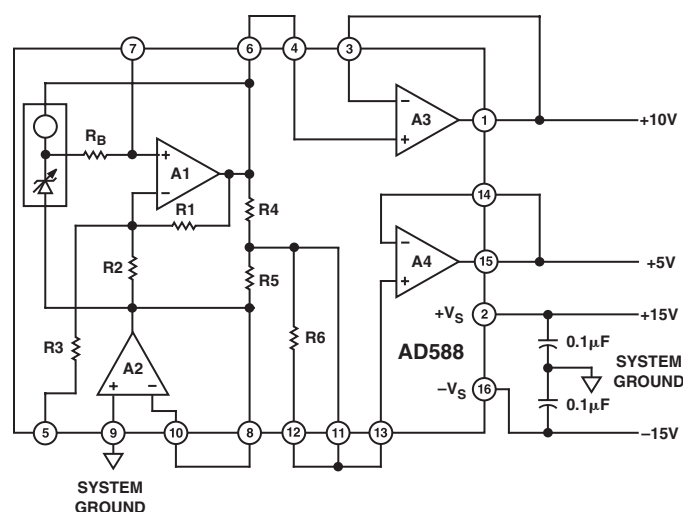
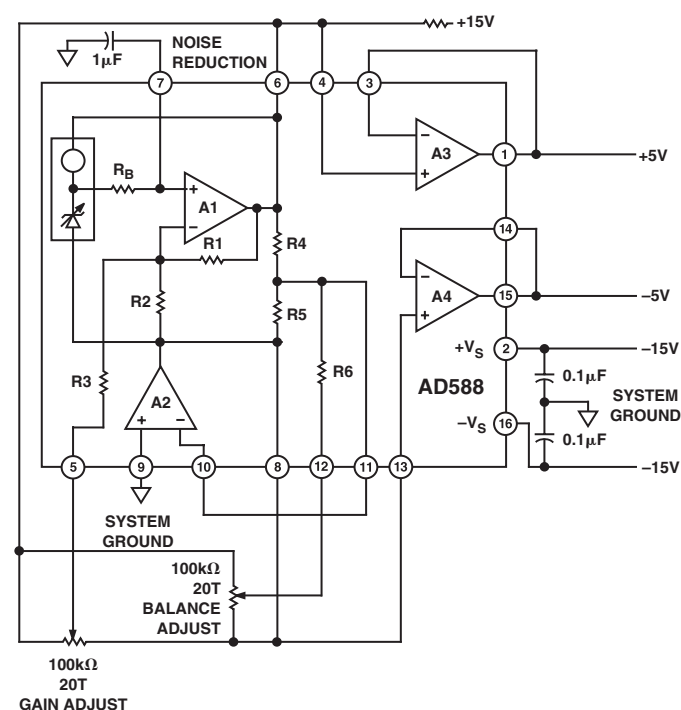
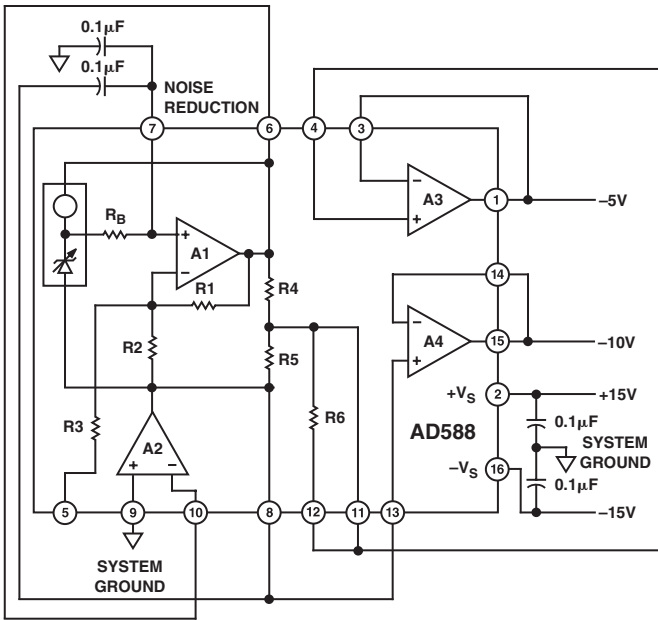
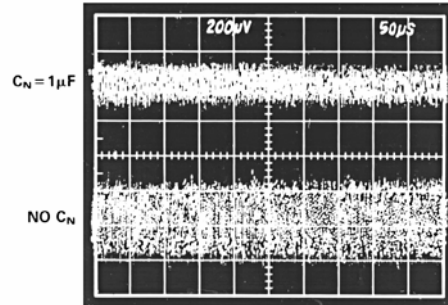

Figure 2a. +10 V Output
Figure 2b. +5 V and -5 V Outputs
Figure 2c. -10 V Output
Figure 4. Effect of 1 µF Noise Reduction Capacitor on Broadband Noise
+10 V	Figure 2a
-10 V	Figure 2c
+5 V, -5 V, ±5 V	Figure 2b
The AD588 can be configured to provide +10 V and -10 V reference outputs as shown in Figures 2a and 2c, respectively. It can also be used to provide +5 V, -5 V, or a ± 5 V tracking reference, as shown in Figure 2b. Table I details the appropriate pin connections for each output range. In each case, Pin 9 is connected to system ground and power is applied to Pins 2 and 16.
The architecture of the AD588 provides ground sense and uncommitted output buffer amplifiers that offer the user a great deal of functional flexibility. The AD588 is specified and tested in the configurations shown in Figure 2a. The user may choose to take advantage of the many other configuration options available with the AD588. However, performance in these configurations is not guaranteed to meet the extremely stringent data sheet specifications.
As indicated in Table I, a +5 V buffered output can be provided using amplifier A4 in the +10 V configuration (Figure 2a). A -5 V buffered output can be provided using amplifier A3 in the -10 V configuration (Figure 2c). Specifications are not guaranteed for the +5 V or -5 V outputs in these configurations. Performance will be similar to that specified for the +10 V or -10 V outputs.
Amplifiers A3 and A4 can be used interchangeably. However, the AD588 is tested (and the specifications are guaranteed) with the amplifiers connected as indicated in Figure 2a and Table I. When either A3 or A4 is unused, its output force and sense pins should be connected and the input tied to ground.
Figure 2b shows GAIN and BALANCE trims in a +5 V and -5 V tracking configuration. A 100 k Ω 20-turn potentiometer is used for each trim. The potentiometer for GAIN trim is connected between Pin 6 (V_{HIGH}) and Pin 8 (V_{LOW}) with the wiper connected to Pin 5 (GAIN ADJ). The potentiometer is adjusted to produce exactly 10 V between Pin 1 and Pin 15, the amplifier outputs. The BALANCE potentiometer, also connected between Pin 6 and Pin 8 with the wiper to Pin 12 (BAL ADJ), is then adjusted to center the span from +5 V to -5 V.
If further noise reduction is desired, an optional capacitor, C_N , may be added between the NOISE REDUCTION pin and ground, as shown in Figure 2b. This will form a low-pass filter with the 4 kΩ R_B on the output of the Zener cell. A 1 µF capacitor will have a 3 dB point at 40 Hz and will reduce the high frequency (to 1 MHz) noise to about 200 µV p-p. Figure 4 shows the 1 MHz noise of a typical AD588 both with and without a 1 µF capacitor.
Note that a second capacitor is needed in order to implement the NOISE REDUCTION feature when using the AD588 in the -10 V mode (Figure 2c.). The NOISE REDUCTION capacitor is limited to 0.1 µF maximum in this mode.